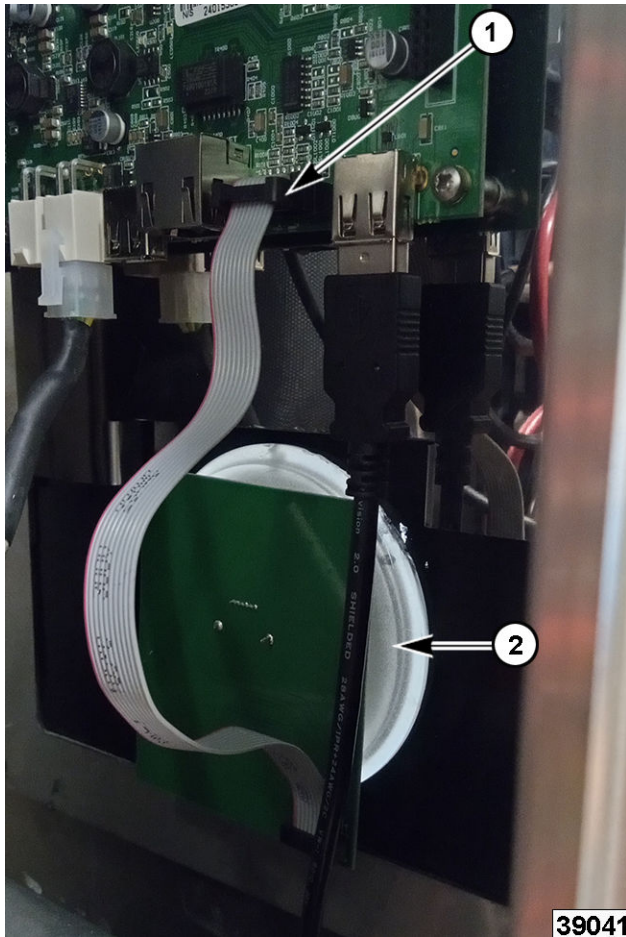

Fig. 18
- From the backside of control panel disconnect encoder wiring (1, Fig. 18) from board.